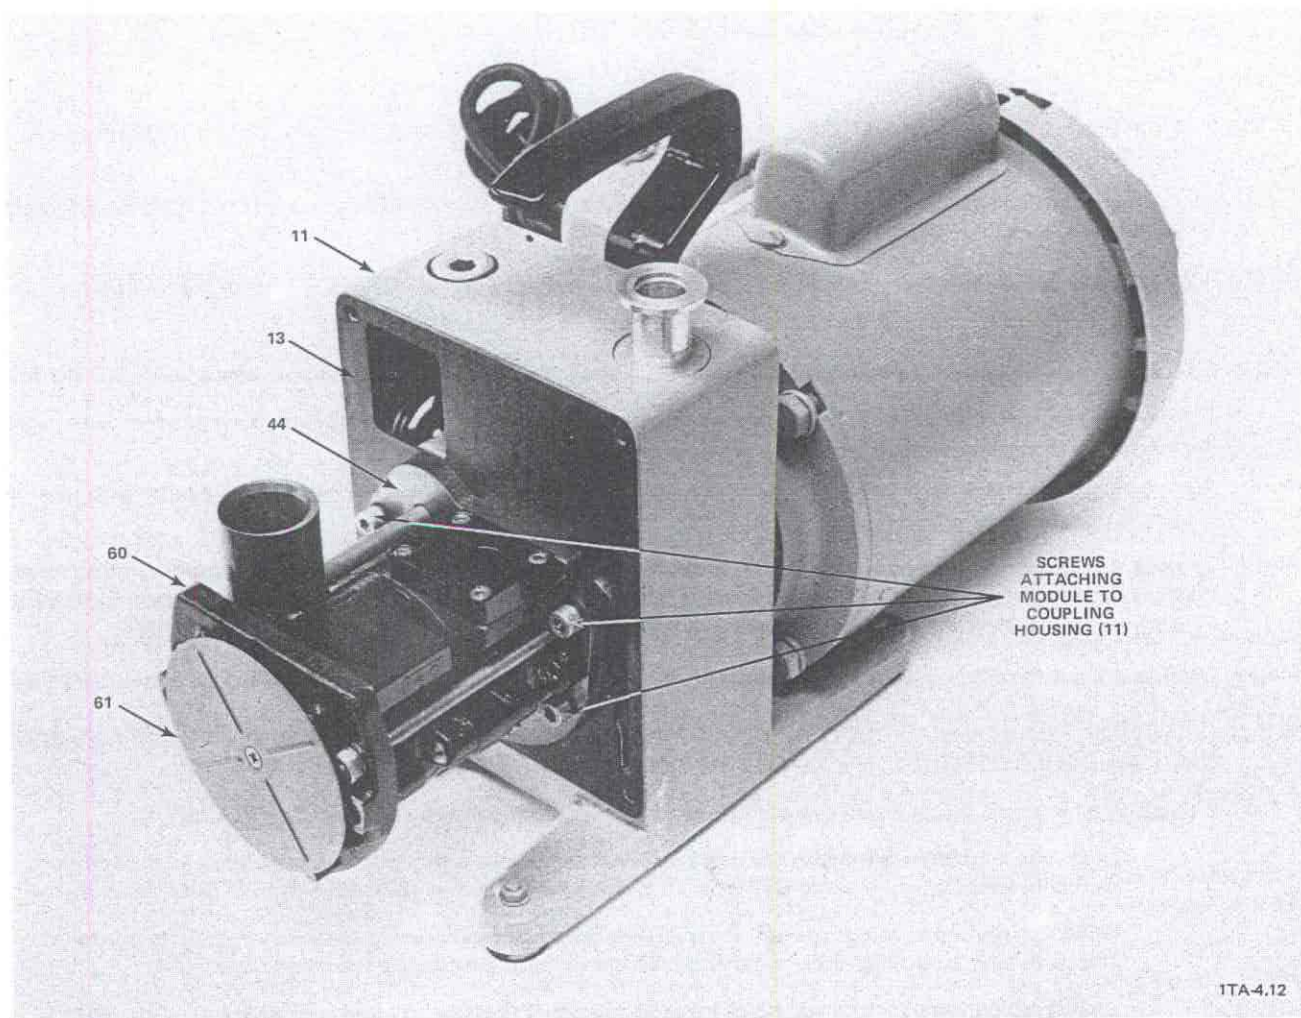

Figure 5-2. Module Attached to Coupling Housing (D2A Pump Model Shown)
- c. **NOTE:** If you plan to reuse the large flat seal (13) that fits between the oil casing and the coupling housing, carefully peel the seal (13) from the oil-casing flange before removing the oil casing (see Figure 5-2).
Using a phillips head screwdriver, remove the disk (61) from the shaft (see Figure 5-2).
- a. Unscrew and remove the lower screws and washers that attach the module to the coupling housing (11) (see Figure 5-2).
- c. Pull the module **straight back** and away from the coupling housing (11).
B-10 Clean the large flat seal (13) from the coupling housing (11) and/or front end plate (44) (see Figure 5-2).